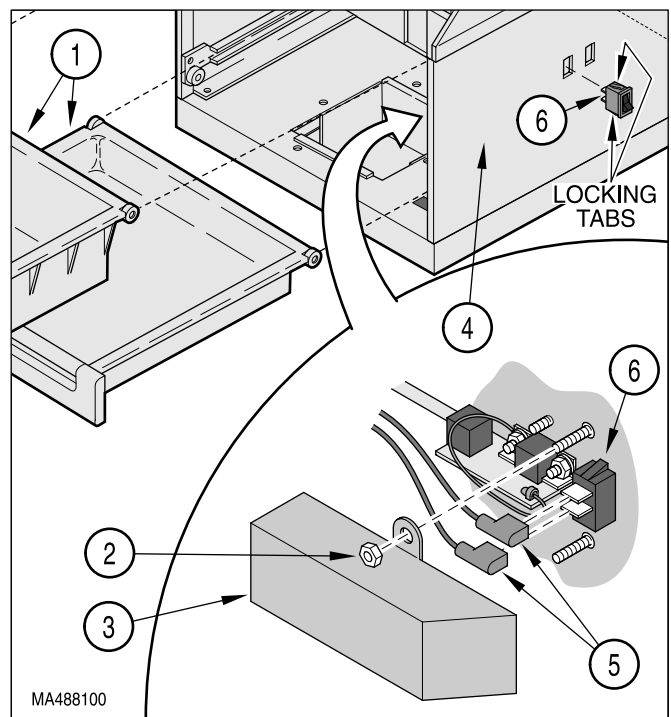

Figure 4-19. Control Disable Switch Removal / Installation
- (1) Unplug table power cord from wall outlet.
- (2) Remove two drawers (1, Figure 4-19) from the foot end of the table.